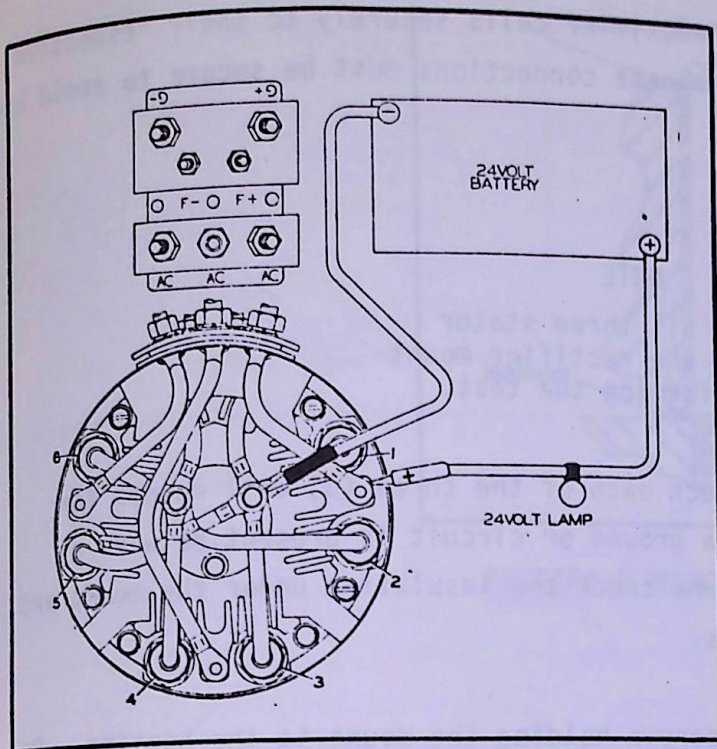

FIGURE 10-3
10.5.1 If a diode tester is not available, these tests may be made with 24 volts of battery and a 24 volt bulb. See Figure 10-3. This test is basically the same as Rectifier Tests (Cover Removed) with the bulb and battery replacing the diode tester as shown in Test 1.